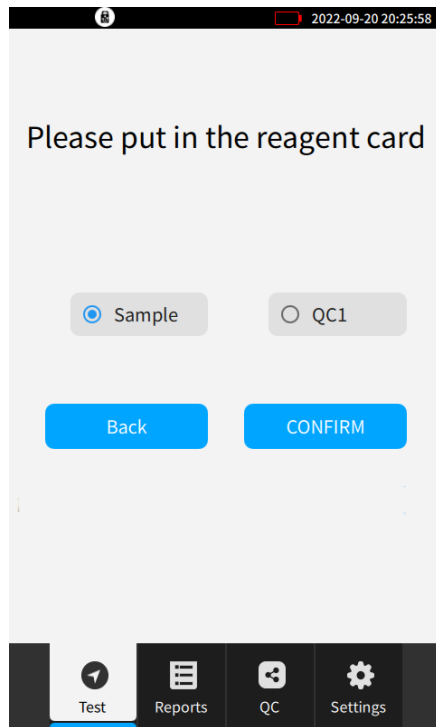

Figure 4-1
- 3) Click [Prepare Test] to enter the interface shown in Figure 4-1;